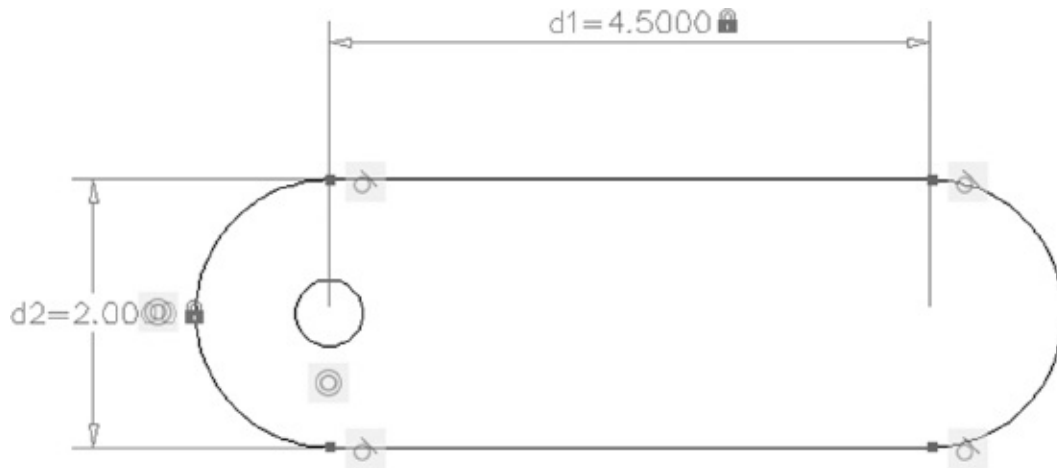

FIGURE 16.15 Adjusting the arc dimension
1. Double-click the dimension value of the d2 dimensional constraint (see Figure 16.15).